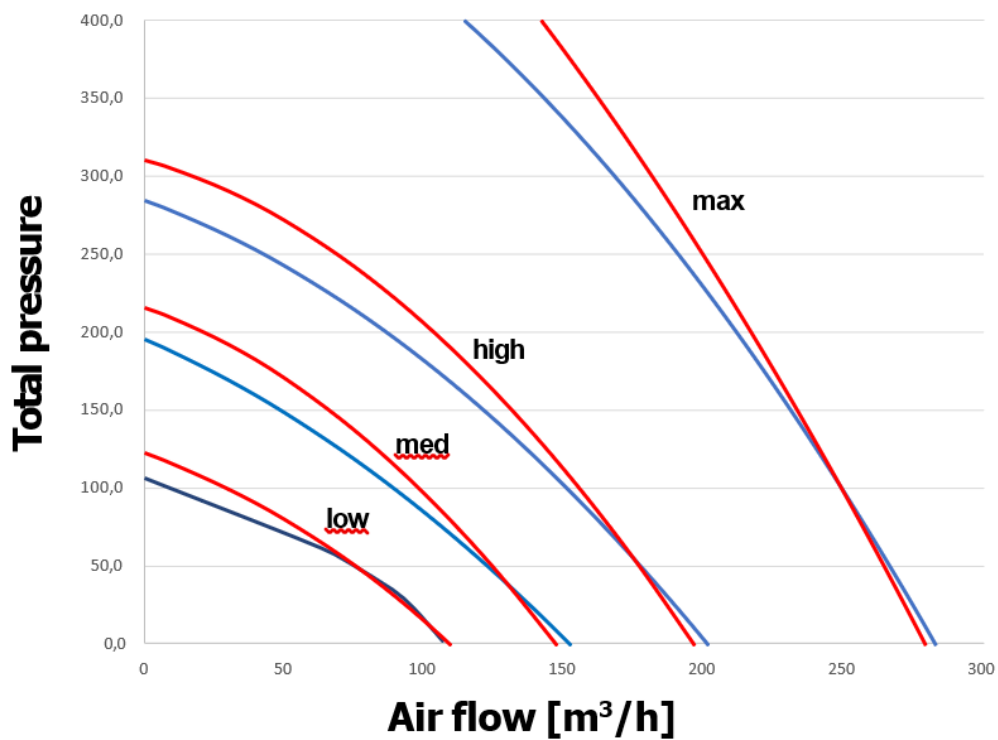

Figure 17. Total pressure for HRU-FlatAIR-250E
- HRU-FlatAIR-250E-H 250 m³/h (at 100 Pa) [Fig. 17]